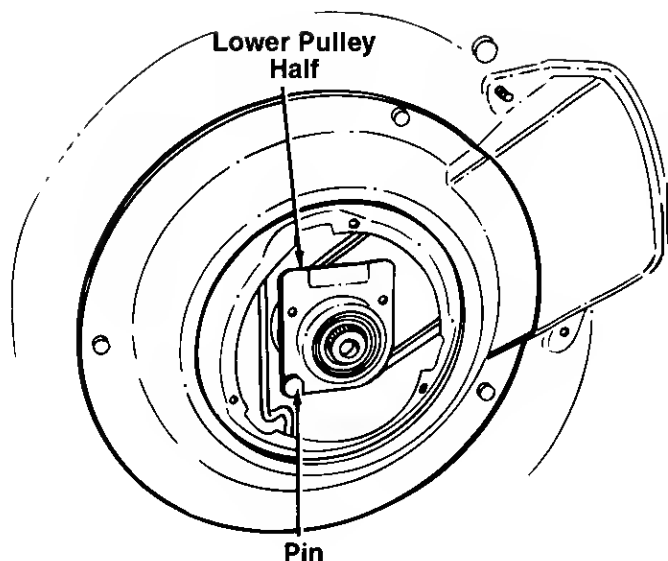

FIGURE 15.
6. Remove the center bolt which secures the blade to the crankshaft. See figure 15. Remove the blade and blade adapter.
7. Remove the two self-tapping screws which secure the lower pulley half. See figure 15. Rotate the lower pulley half 90° clockwise (see figure 16) and remove from mower. Remove the belt from around the crankshaft.